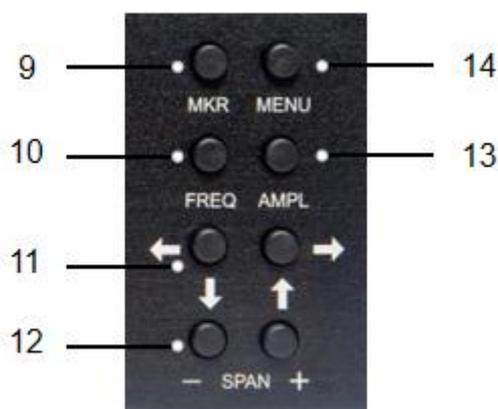

Figure 5.2 Control buttons unit
5.2 The block of buttons for controlling the device is shown in Figure 5.2